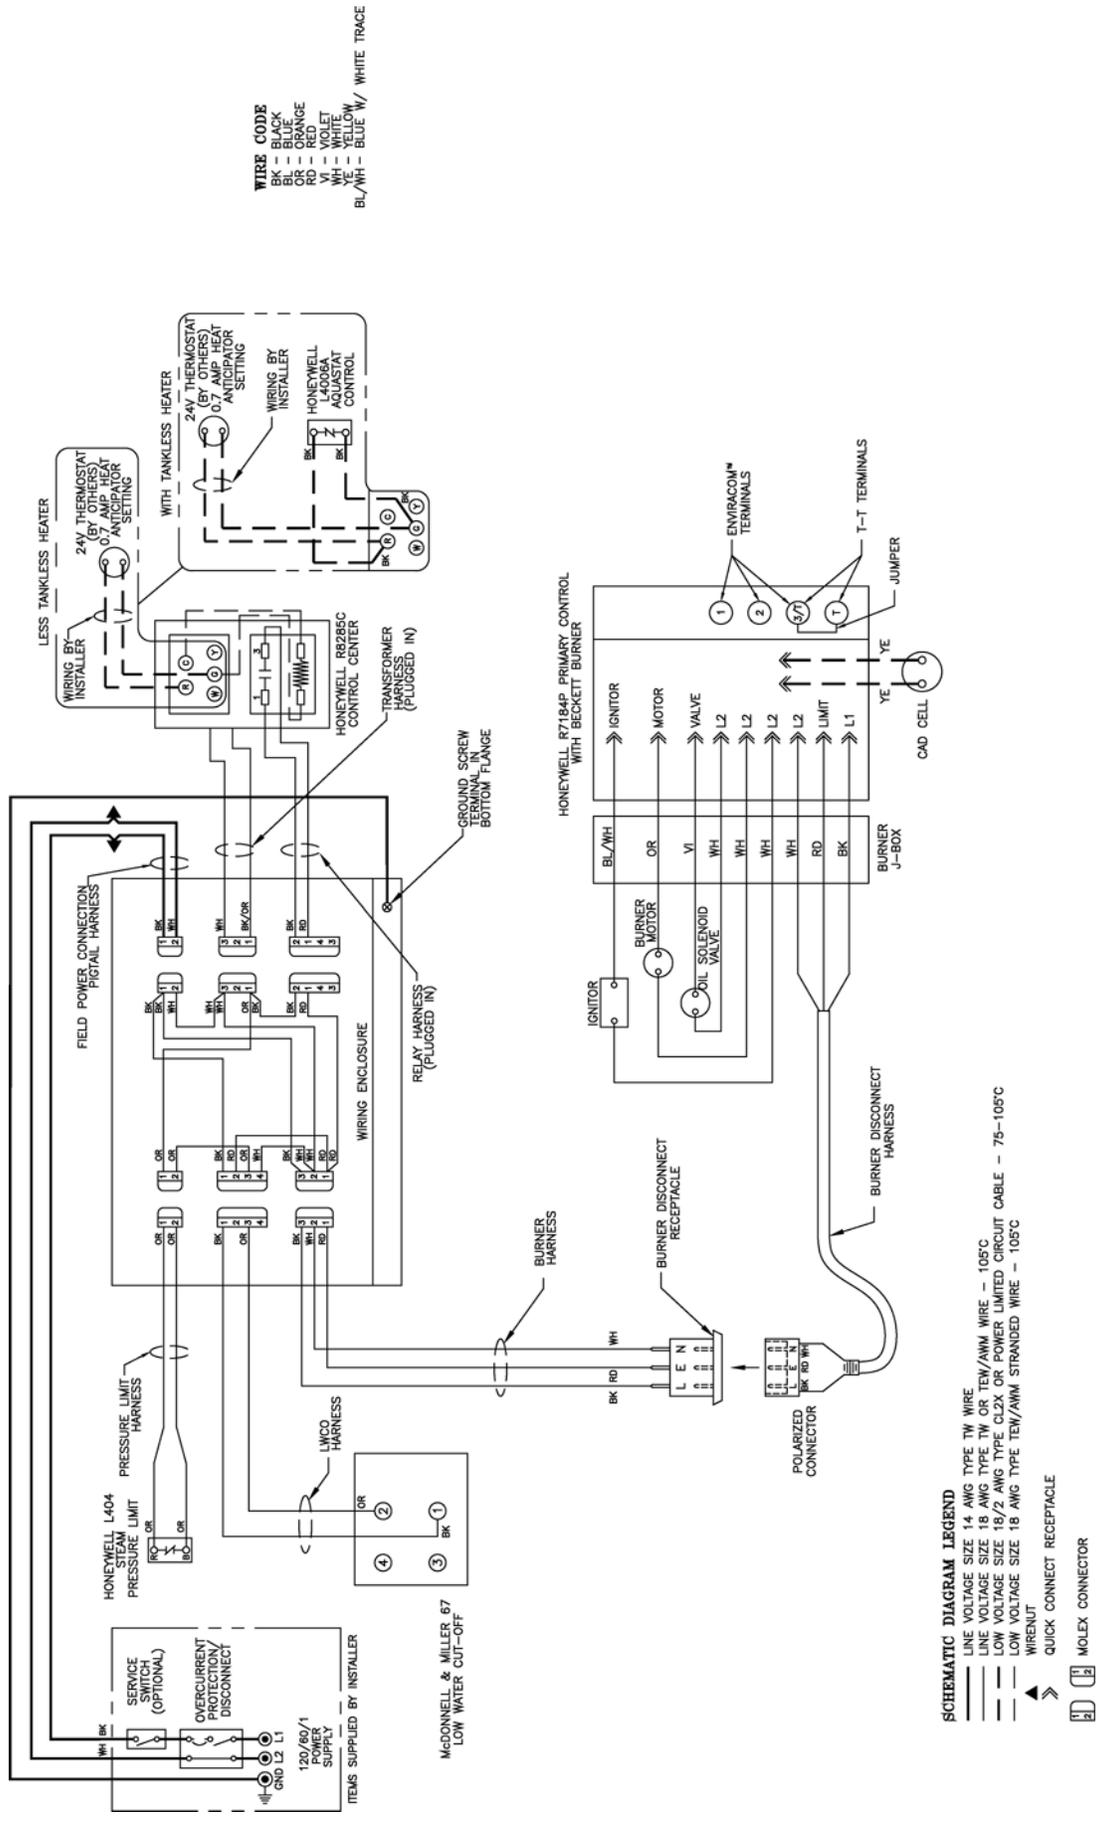

Figure 20: Wiring Diagram. Steam. McDonnell & Miller #67 Float LWCO
- B. INSTALL A ROOM THERMOSTAT** on an inside wall about four feet above floor. Never install thermostat on an outside wall or where it will be influenced by drafts, hot or cold water pipes, lighting fixtures, television, rays of the sun or near a fireplace. Keep large furniture away from thermostat so there will be free movement of room air around this control. Heat Anticipator in Thermostat should be set to match the requirements of the control to which it is connected. See Figure 20 for desired system and heat anticipator setting. If system tends to overheat above the thermostat's temperature setting, reduce heat anticipator setting by .1 or .2 amps. If system tends to short cycle without reaching desired room temperature, increase heat anticipator setting by .1 or .2 amps.
BOILER SEQUENCE OF OPERATION WITH FLOAT LWCO (See Figure 20)